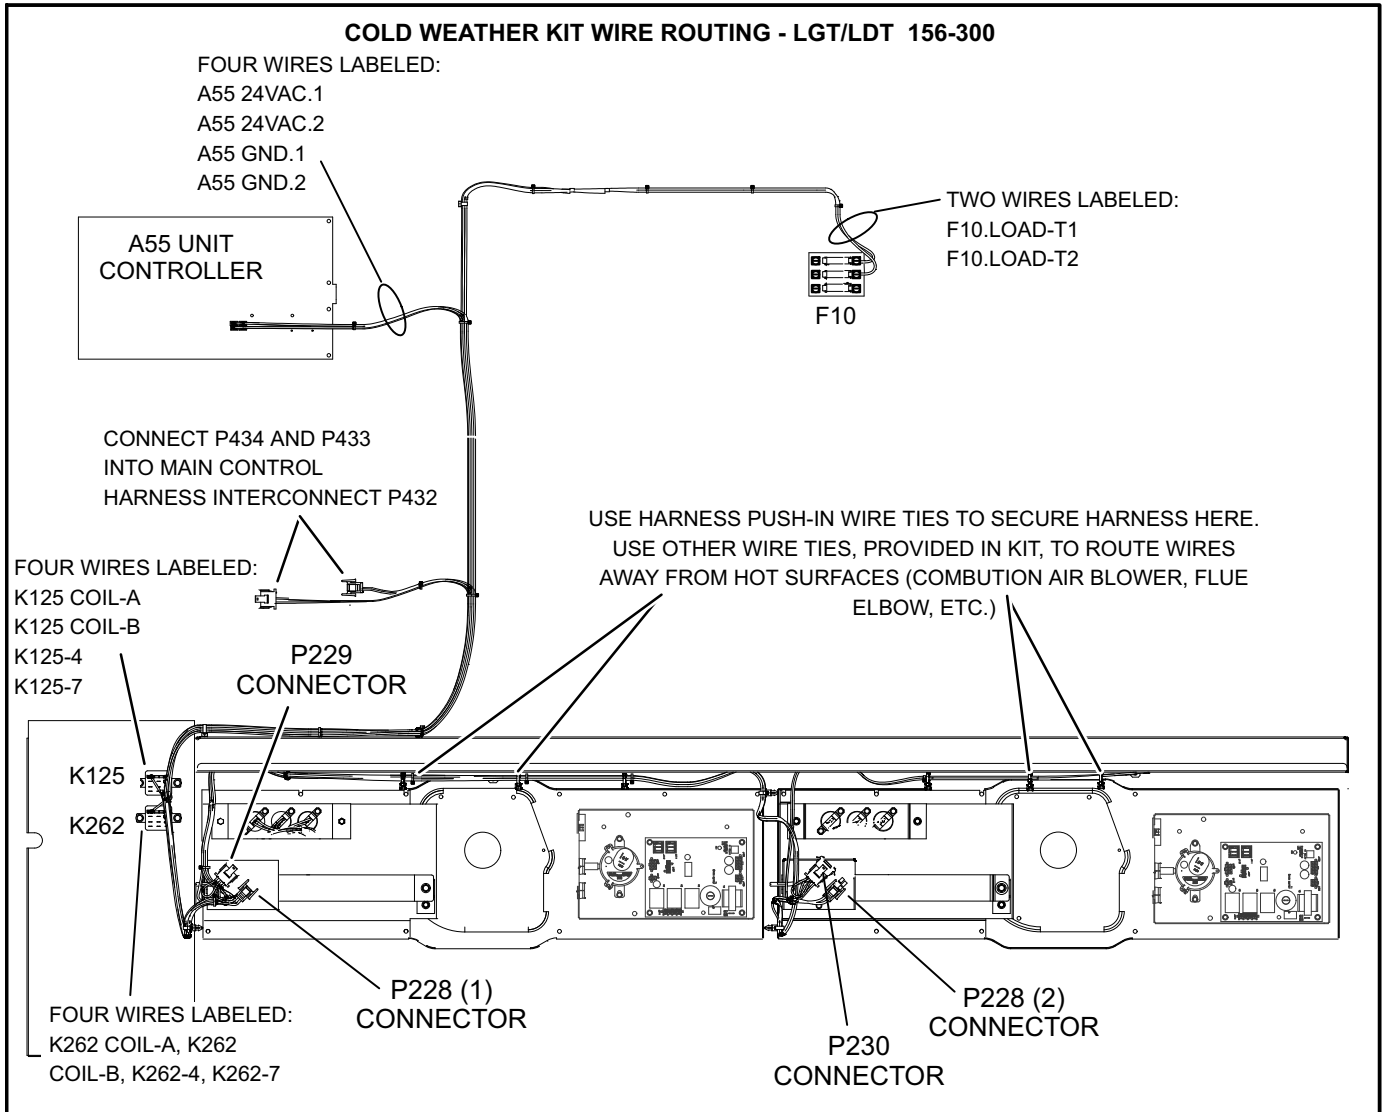

FIGURE 22
- 3- Install both relays as shown in figure 22. Secure with #8 screws.
- 4- Locate harness labeled 107210-01. Route as shown in figure 22. Secure with wire ties. Discard unused harnesses.